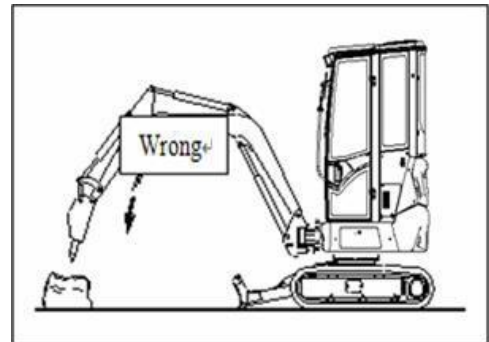

FIG. 4.7.1
- 2) Avoid hammering work with hydraulic breaker. Never use boom or arm to break objects, otherwise it will damage machine. (as FIG. 4.7.1)